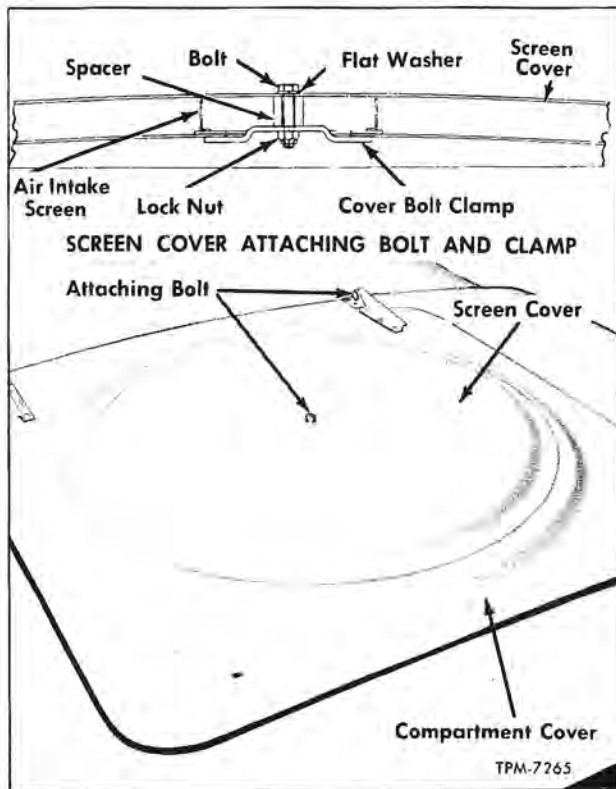
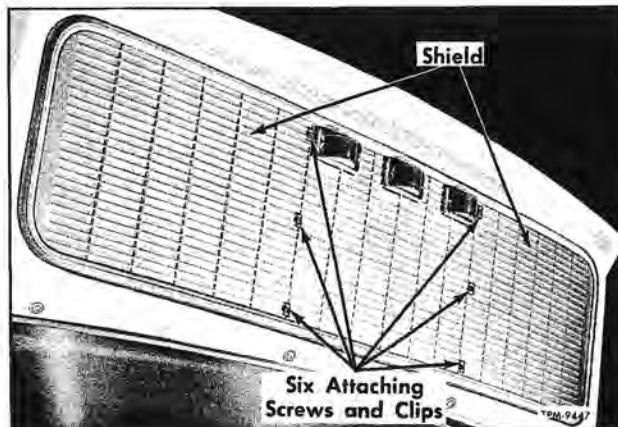

Figure 118—Winterization Top Cover Installed
Figure 119—Winterization Rear Shield Installed
4. Remove air intake grille winter cover and shield from condenser compartment hood and cover (figs. 118 and 119).
1. The system should be pumped down and all refrigerant valves closed (two at receiver tank and two at top of compressor). Install protector cover and shield over condenser compartment openings. Figure 118 shows cover installed. Cover is retained with a bolt, spacer, clamp, and bolt nut. Hood rear shield is attached with six screws and clips (fig. 119).